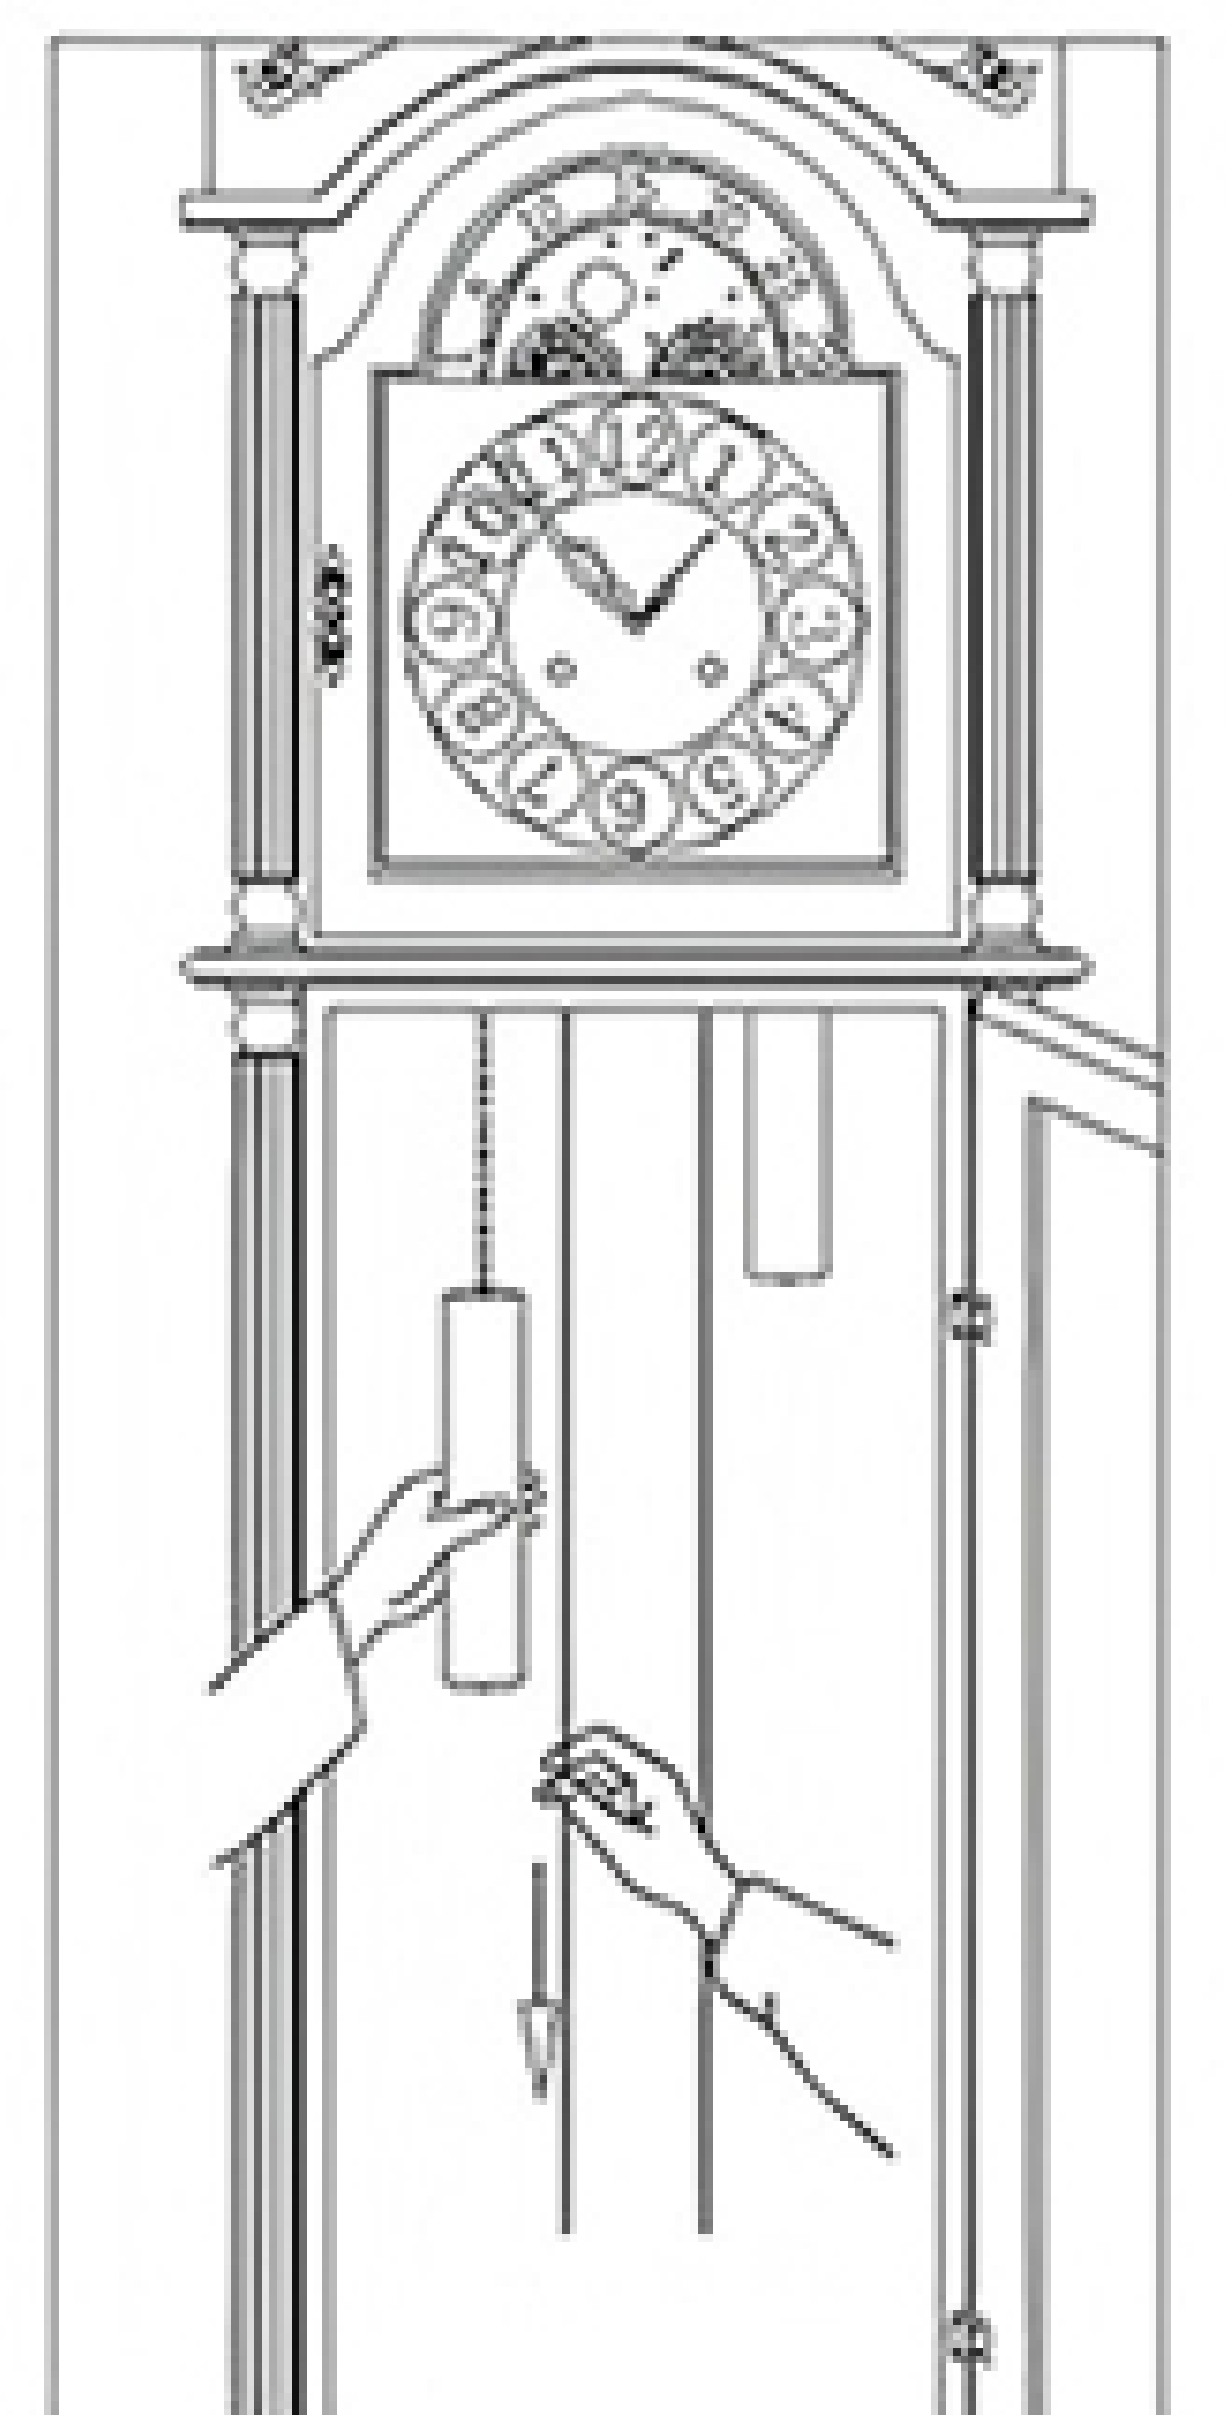

Figure 5
3. To wind the weights, gently support the weight with one hand while pulling the chain straight down slowly and steadily with the other hand (Fig.5).